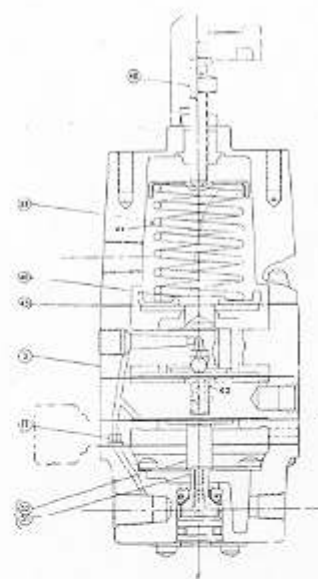

Figure 1
Assume that adjusting screw (40) Figure 1 has been backed out; initially so that the spring K1 (37) is not exerting pressure on piston diaphragm (46). Supply air entering the inlet port will flow through orifice (11) to the top of control diaphragm (4) and through nozzle (part of nozzle housing and assembly (3). Spring K2 (16) exerts pressure against the pilot diaphragm (8) moving ball which presses against and closes the nozzle. With the nozzle closed, pressure builds up over control diaphragm (4) causing pintle (31) (32) to move down against the force of spring (27), opening a path to the outlet port. Spring K1 (37) which exerts force against piston diaphragm (46) is adjusted so that the nozzle (8) again opens, decreasing pressure over control diaphragm (4). Spring (27) will force pin:le (31) (32) to move up and close the path to the outlet port.